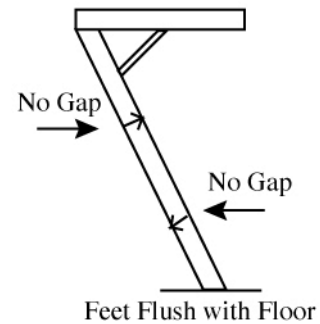
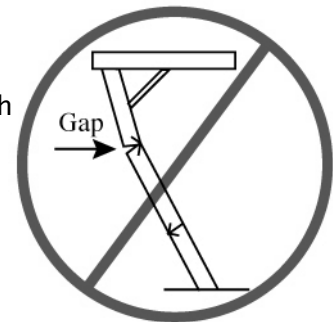

Fig. 2
Fig. 3
STEP 3: The foot supports supplied with your stair should be attached according to length required to allow the bottom of the stair to fit flush with the floor (Fig. 2). According to the measurements taken in STEP 3, the bottom section may or may not need to be cut.
STEP 4: If cutting is necessary, cut each bottom stringer to the proper length along the reference line. Attach the foot supports with the nuts and bolts provided. A hole must be drilled in the bottom aluminum extrusion (if not pre-drilled) to attach the foot supports. The bottom of the aluminum extrusion must extend into the foot supports a minimum of 3 1/2 inches. The bottom section of the stairs should fit flush with the floor on both sides after cutting (Fig. 2).
STEP 5: Check to make sure the stairs fit flush with the floor and that all joints are tight with no gaps (Fig. 2). If the stairs are too long (Fig. 3), trim them again. If the stairs are too short (Fig. 4), do not use them. Contact your vendor or The Marwin Company.